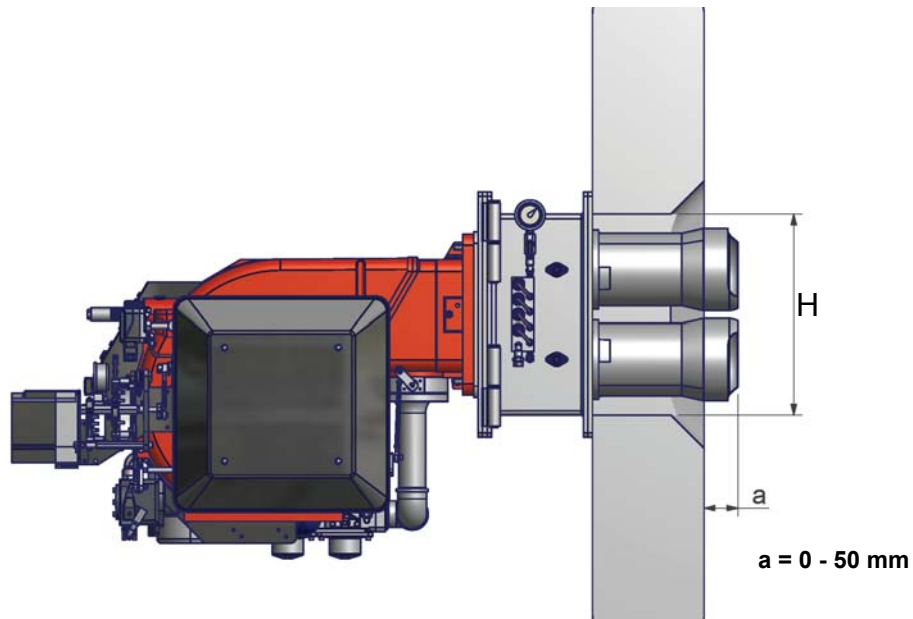

Fig. 5
- 4 fix the burner to the stud bolt, by means of the fixing nuts, according to Fig. 5.